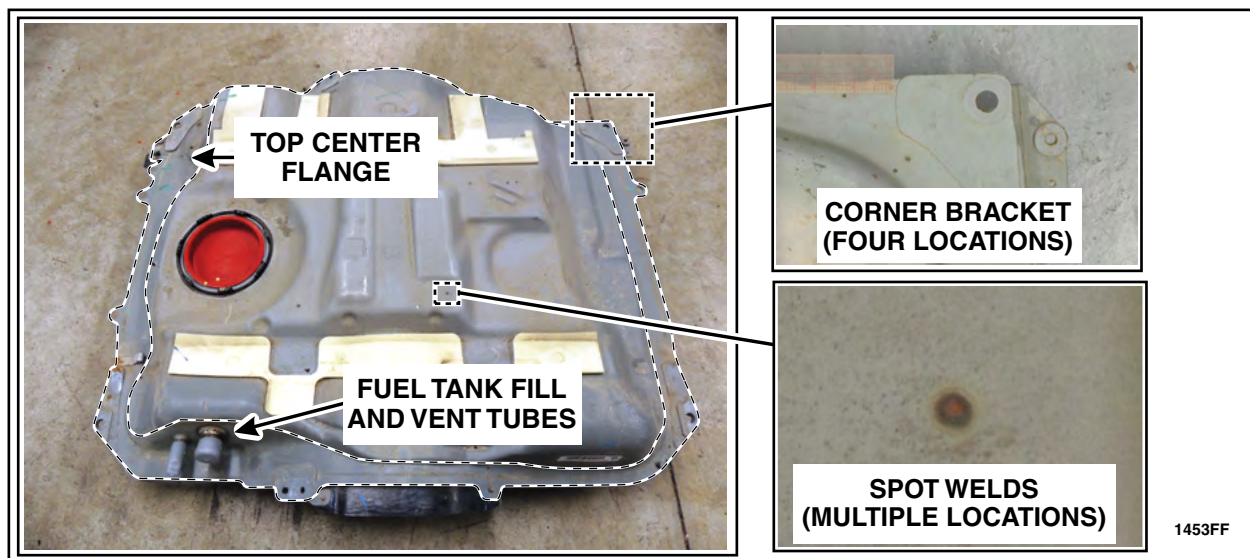

FIGURE 7
2. If necessary, use a stiff nylon brush and Motorcraft Metal Brake Parts Cleaner to clean any heavy deposits of dirt/debris from around the top center flange area of the fuel tank so the metal in the corner bracket areas can be inspected for rust/corrosion. See Figure 7.
3. Inspect the fuel tank corner bracket areas, fuel filler and vent tube attachment areas and other areas of the fuel tank for signs of leaks or corrosion. See Figures 7, 8a-8b, and 9a-9b.
10. Remove the aerosol tube and apply a heavy coat of anti-corrosion treatment over the following areas of the fuel tank: See Figures 7 and 12a-12d.